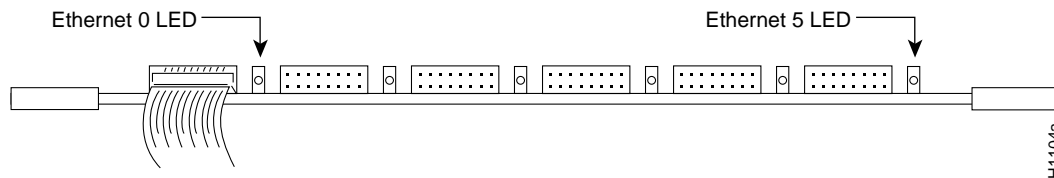

Figure 5 CSC-MEC Card LED Indicators—Front-Edge View
Also observe the LEDs on the MEC card you just reinstalled. An LED is located next to each port, as shown in Figure 5. After the system boots, the LED for each connected port should be on.
**Step 4** Check the LEDs on the MEC card. The LED indicator for each connected port should be on. (See Figure 5.) If they do not go on, check the following: